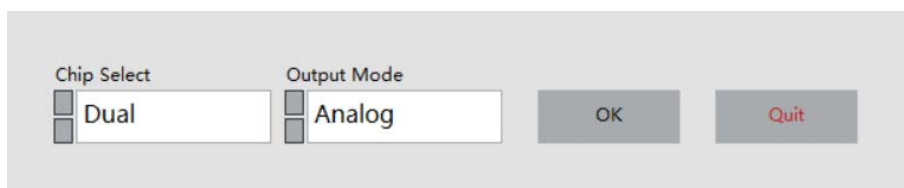
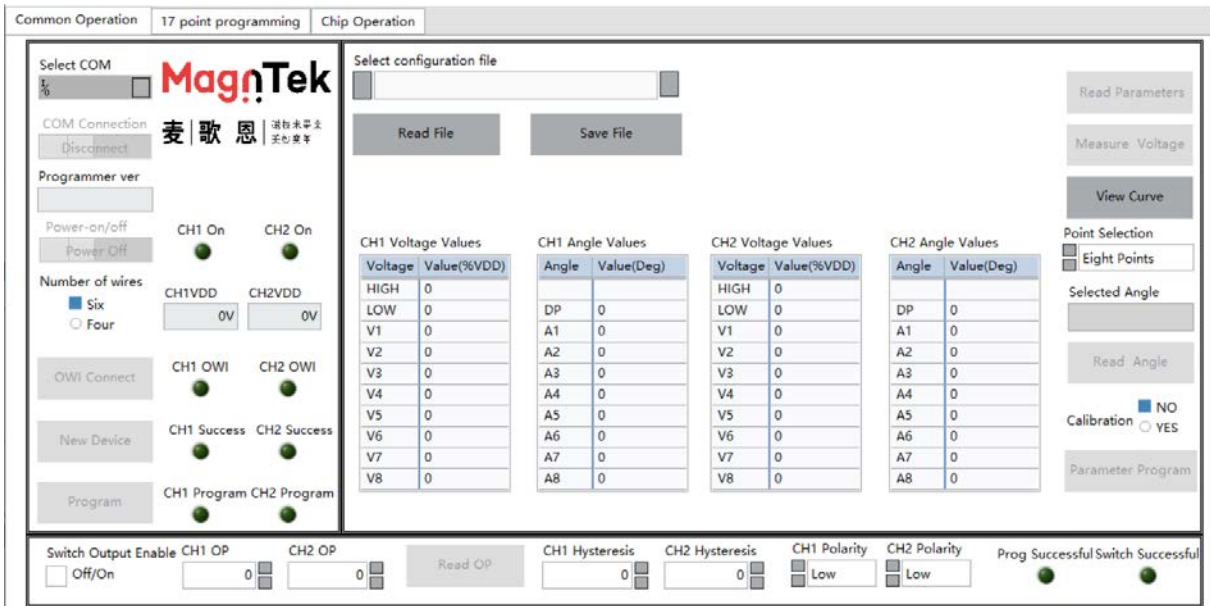

Figure 5.3.1 Chip Selection interface
Figure 5.3.2 Programming main interface
- 3、 Double-click the "PB600\_MT6511GUI.exe" file to open the software and bring up the chip mode selection interface (Figure 5.3.1). Here, select "Dual" and "Analog" parameters, then click "OK" to enter the programming interface for this mode (Figure 5.3.2).